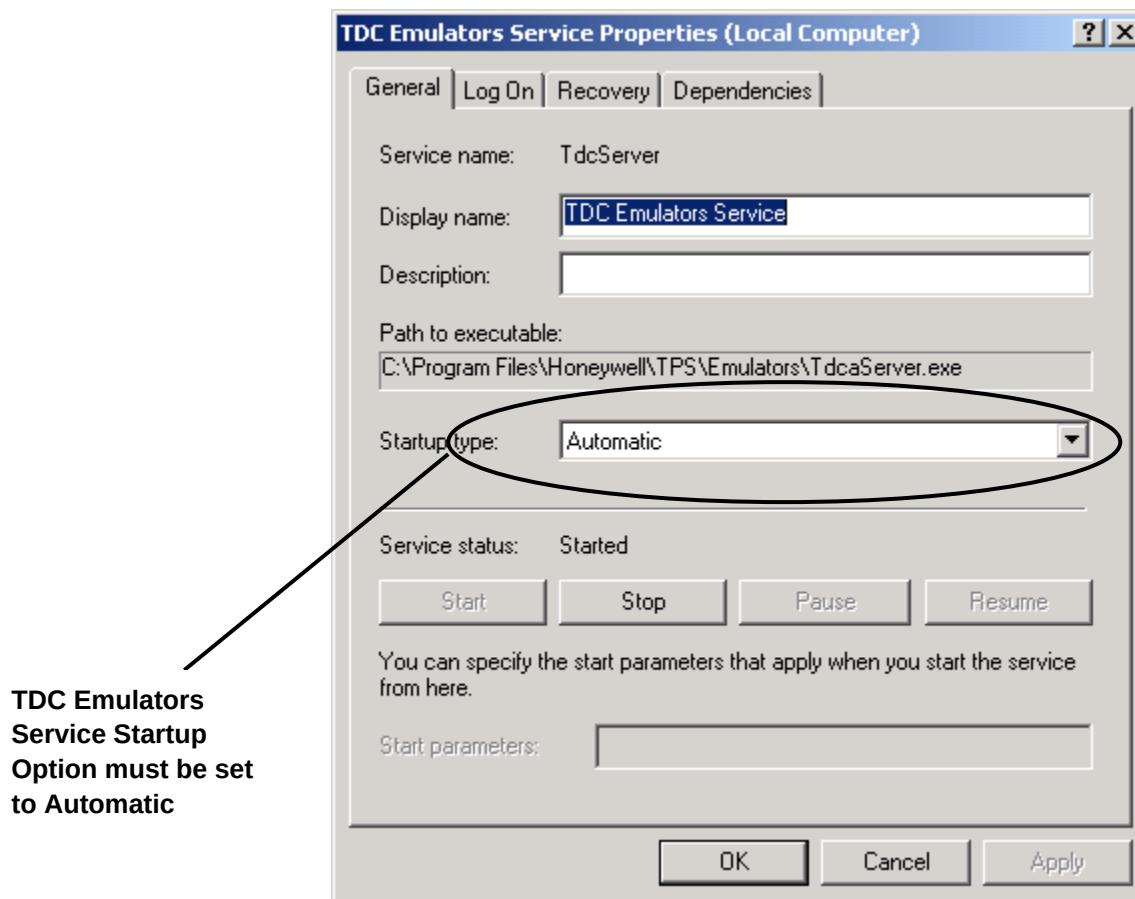

Figure 2.3-2 Automatic Startup option on TDC Emulators Service
2.3.15	If the Startup Type is not Automatic, then select the drop-down menu and change it to Automatic. See Figure 2.3-2 below.